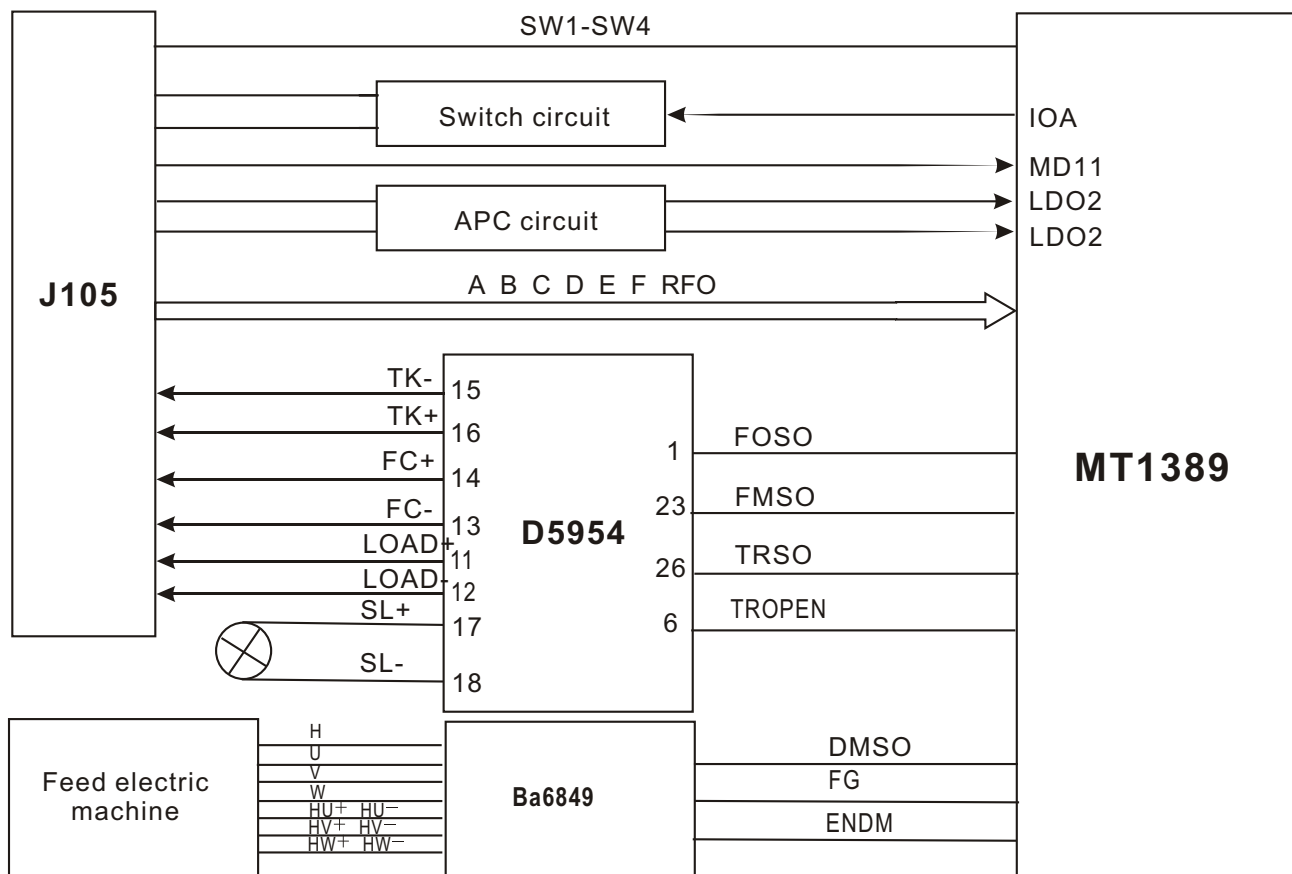

Figure 3.2.7.1 Servo circuit block diagram
1. Servo system of this player adopts PANASONIC loader+MTK decode solution (MT1389HD+FLASH (16M) + SDRAM (64M)), and its servo circuit is mainly composed of front end signal processing, digital servo processing, digital signal processing IC MT1389HD and drive circuit D5954/BA6849, in which MT1389HD is also the main composed part of decode circuit. Servo circuit block diagram is shown as in the following figure 3.2.7.1: